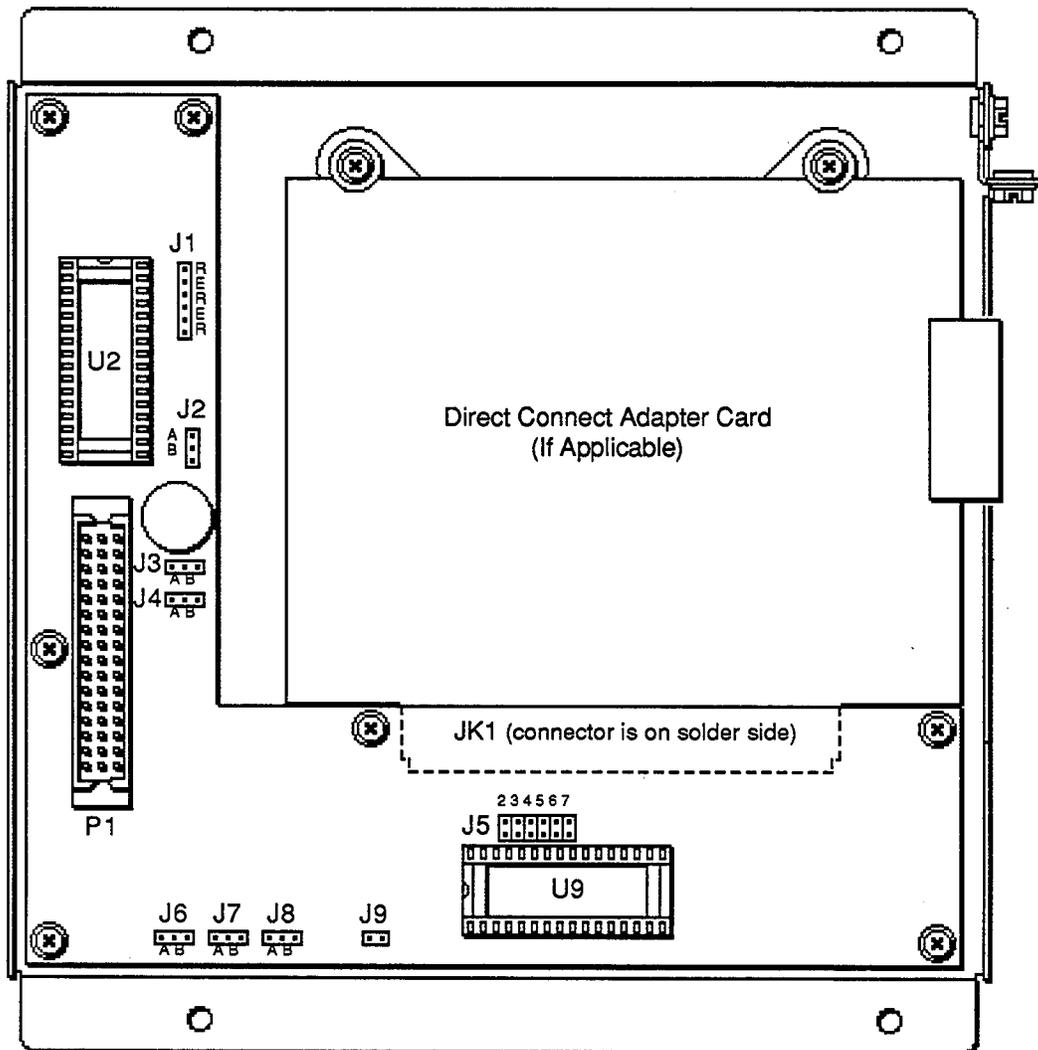

Figure 2-1. 2112 Jumpers, Sockets, and Connector
The 2112 jumpers, sockets, and connector are shown in Figure 2-1 below:
4. Install the RAM/EPROM chip in socket U2, aligning pin 1 of the chip to pin 1 of the socket (see figure 2-1 for location of U2). Static protection is recommended to insure the integrity of the device.
JK1	Interface for Xycom direct connect adapter card. The connector is located on the solder side of the board as indicated by the outline in Figure 2-1.